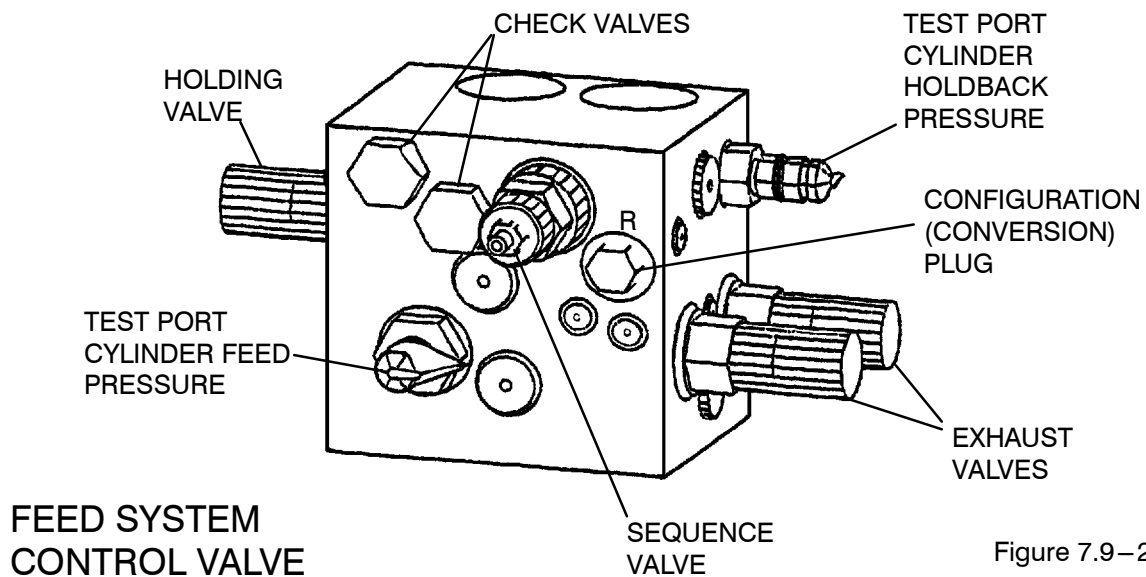

Figure 7.9-21
1. Install a test gauge in the **Cylinder Feed Pressure Test Port**. Refer to Figure 7.9-21.
Low pressure and high pressure feed control valve assemblies are alike except for the removeable conversion plug (see Figure 7.9-21) and the sequence cartridge. The conversion plug for an HP assembly has an SAE port "R" in the hex end of the cartridge. A fitting, hose and relief valve attached to this port will allow remote control of the adjustment of the sequence cartridge. The conversion plug for an LP assembly does not have an external "R" port.